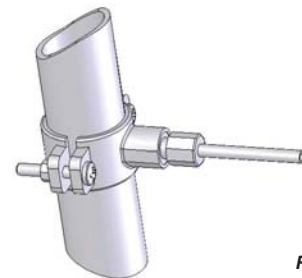

Fig. 4
3. Screw the connector nut onto the drain saddle threaded connector loosely (Fig. 4). Using the connector opening in the side of the drain saddle as a guide, drill a 3/8" hole through the wall of the drain pipe.
5. Tighten the saddle bolts evenly on both sides until the saddle grips the pipe snugly - do not overtighten. (Fig. 4)